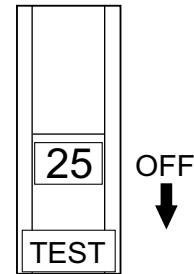

Figure 29. AC Circuit Breaker (OFF)
1. Place AC circuit breaker (Figure 29) in the **OFF** position